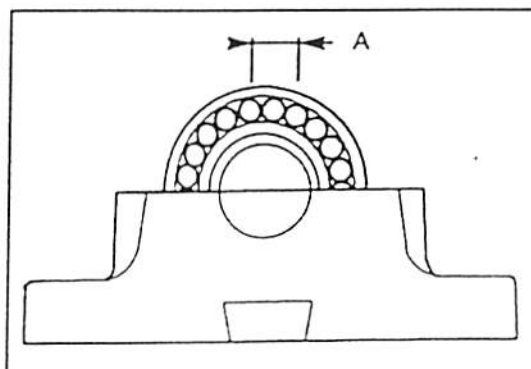
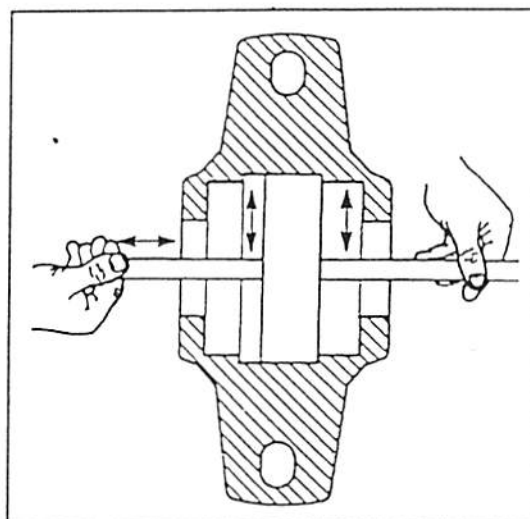

Fig. 16. Push the feeler gauge between the rollers.
Fig. 17. Measure the clearance by moving the feeler gauge back and forth.
4. Measure with a feeler gauge the radial clearance of the bearing at the top of the bearing between the rollers and the outer ring. The clearance should be 0.0008 to 0.0012". Measure by pushing the feeler gauge between the rollers (point A, fig.16.) through the bearing, and after that by pushing the gauge through the clearance between the rollers and the outer ring by moving it back and forth (fig.17.). Do not push the feeler gauge by force through the clearance.